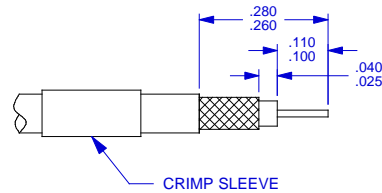

FIGURE 1
STEP 1. SLIDE CRIMP SLEEVE OVER JACKET. STRIP CABLE TO DIMENSIONS SHOWN IN FIGURE 1. BE CAREFUL NOT TO NICK INNER CONDUCTOR OR SHIELD.